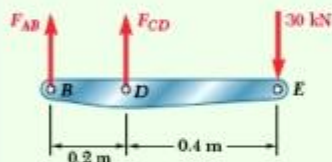
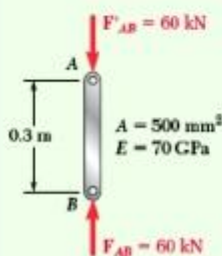

Fig. 1 Free-body diagram of rigid bar  $BDE$ .
Fig. 2 Free-body diagram of two-force member  $AB$ .
**MODELING:** Draw the free body diagrams of the rigid bar (Fig. 1) and the two links (Fig. 2 and 3)
**Free Body: Bar BDE (Fig. 1)**
**a. Deflection of B.** Since the internal force in link  $AB$  is compressive (Fig. 2),  $P = -60 \text{ kN}$  and